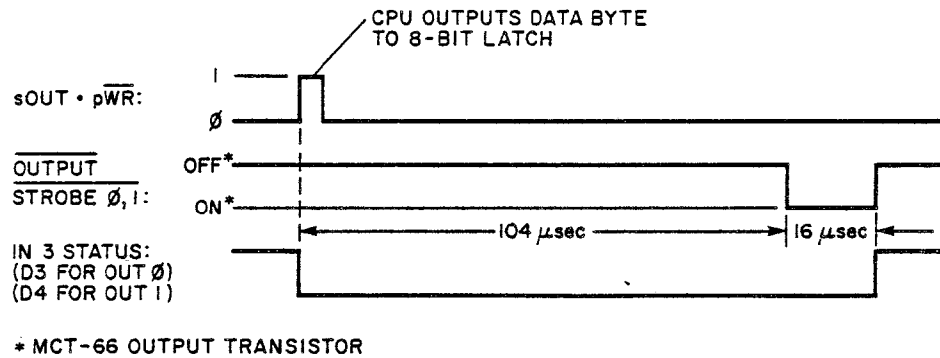

Figure 10: OUT 0 AND OUT 1 STROBE TIMING
timing is illustrated below in Figure 10.
(G) The CPU monitors bits D3 and D4 of 4PIO status port IN 3 to determine when port OUT 0 or OUT 1 is available to accept new output data (see Figure 10). The 4PIO handshake circuitry anticipates the isolated system will unload the output data during OUTPUT STROBE X, thus the CPU may output new data when OUTPUT STROBE X goes inactive.